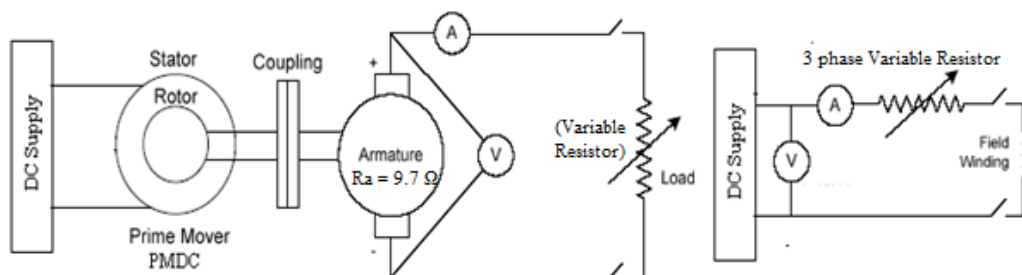

Figure 6.1: Circuit Diagram for Internal and External Characteristics
Therefore, if we add drop of armature ($I_a R_a$) to terminal voltage V_t we get actually induced emf (E). The three main reasons for decrease in terminal voltage of Shunt Generator under load condition are armature reaction, armature resistance and drop in terminal voltage as discussed above. The circuit diagram for determining Internal and External Characteristics is shown in Figure 6.1
1. Make the circuit as shown in circuit diagram in Figure 6.1.